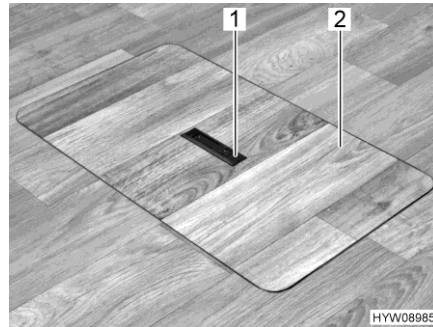
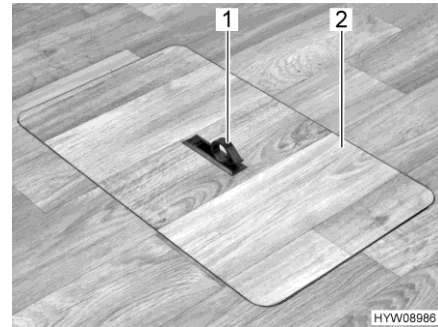

Fig. 58 Service cover (handle recessed)
Fig. 59 Service cover (handle swivelled out)
- Push one side of the grip plate (Fig. 58,1) downwards. The handle (Fig. 59,1) swivels upwards.
- Remove the service cover (Fig. 59,2) upwards.
- Insert the service cover (Fig. 59,2) in the frame in the floor.